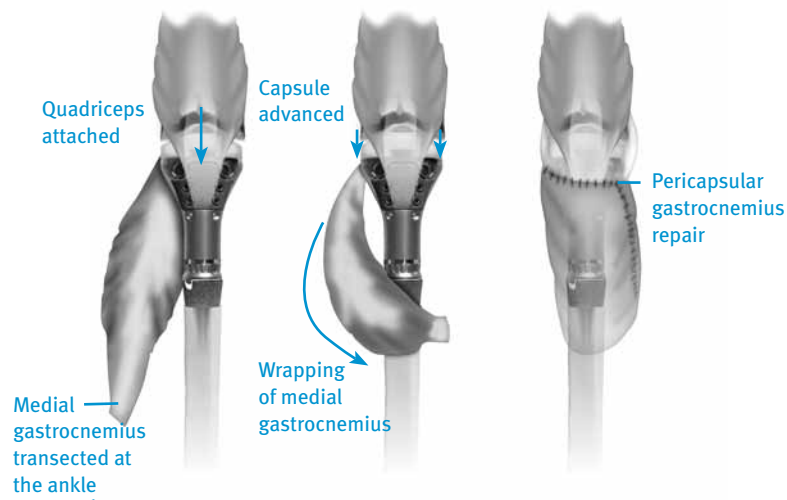

Fig. 19
- Assess the need for a gastrocnemius transfer (**Fig. 19**).